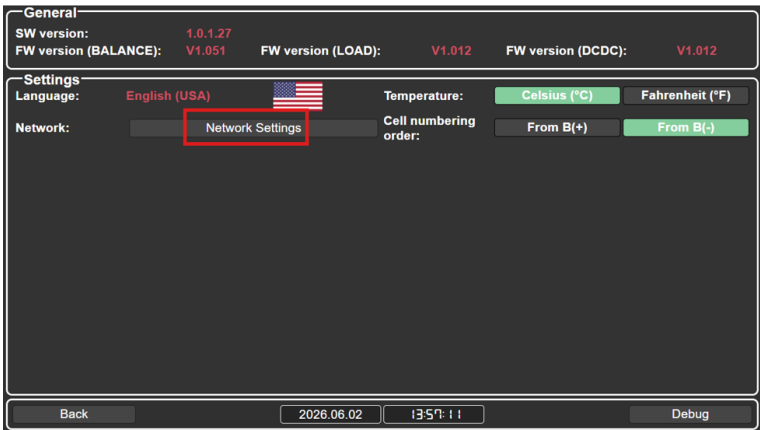

Figure 31
- 2. In the window that opens, go to the **Network Setting** menu (see Fig. 31).